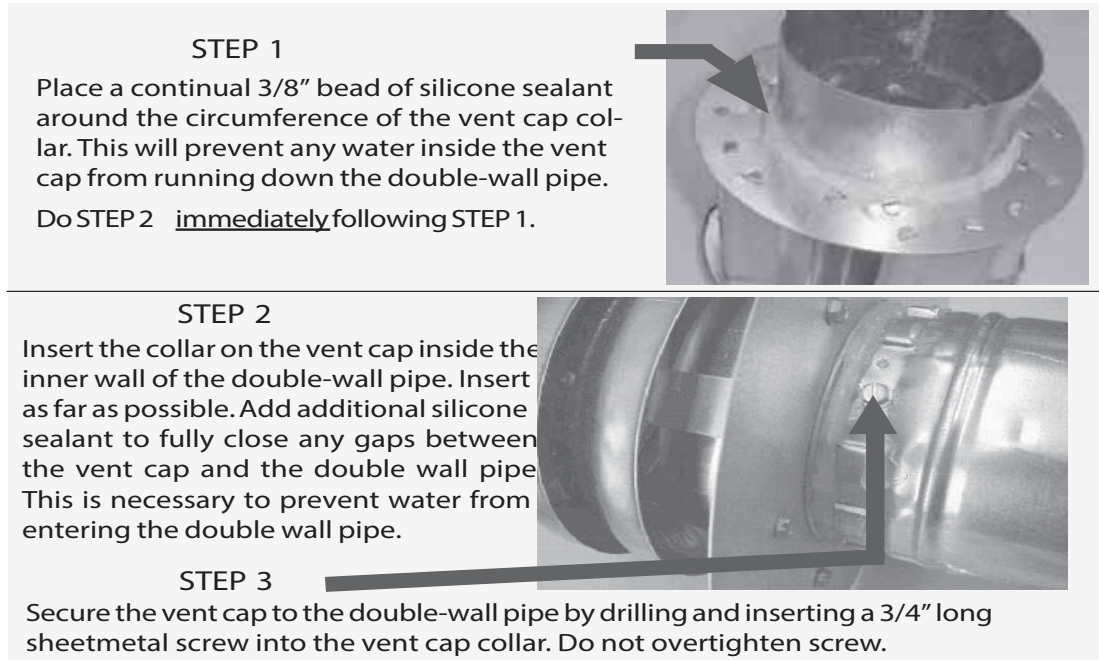

Figure 8. Joining Double-Wall (Type B) Pipe to Vent Terminal Cap (Horizontal or Vertical)
- **To seal the joint between the terminal section of double-wall vent pipe and the vent cap:** follow the illustrated step-by-step instructions in Figure 8.